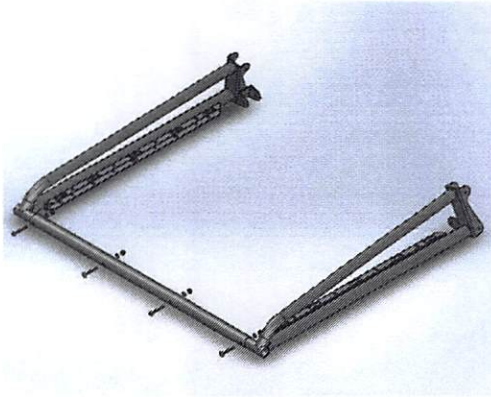

Figure 25: The cross tube securing the side rail assemblies
Step 30: To install the forward cross tube to the side rail assemblies use (4) M10x1.5x70 carriage bolts, (4) M10 washers, and (4) lock nuts. Attach the forward cross tube to one of the side rail assemblies then attach the other side rail assembly. Make sure the loop on the cross tube is facing inward. Figure 25 shows the cross tube securing the side rail assemblies.